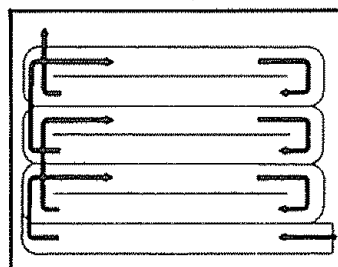

FIG. 8
- Where possible, we recommend tilling in a pattern similar to that shown in Fig. 8. Make the first pass, then skip a space equal to the width of the tiller, and make the return pass. Then till the skipped area. Tilling in this pattern will enable you to maintain better control. If the passes were made side-by-side, the tractor and tiller would tend to pull toward the tilled (soft) side.